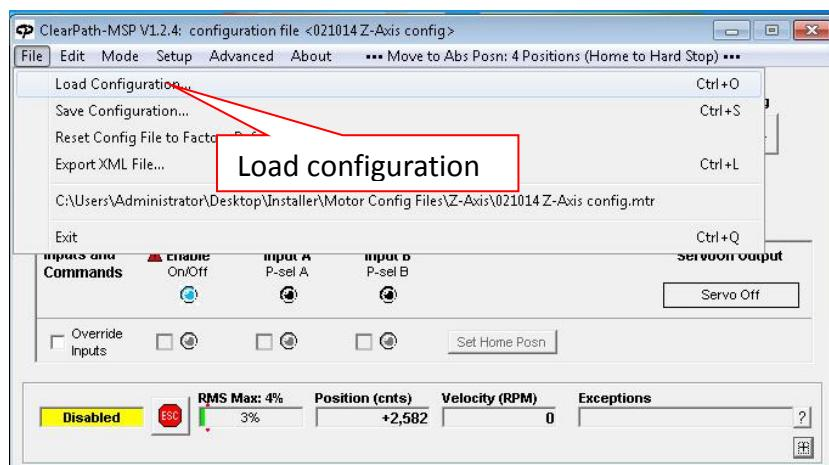

Figure 8 ClearPath MSP Software
6. Browses to path “C:\Users\Administrator\Desktop\Motor Config Files\Z-Axis” & open config file as shown in Figure 8 & 9.